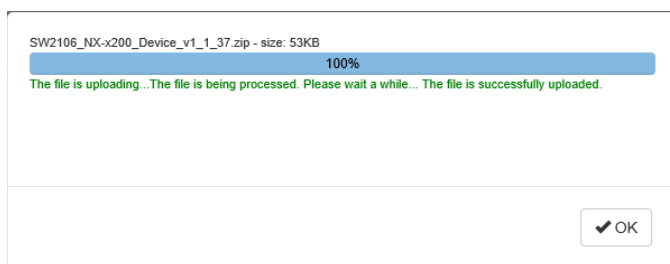

FIG. 47 Upload file transfer status window
5. The upload transfer status is indicated in a status window similar to the one shown in FIG. 47: